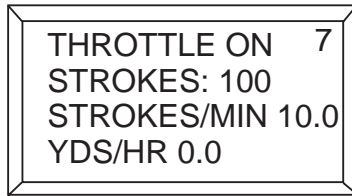

Figure 29. Strokes Per Minute Display
- Scroll through the **digital readout screen** with the scroll switch to go to screen 7 (Figure 29). This screen will show the volume in strokes per minute. Multiply reading $\times 2$ for actual stroke count.